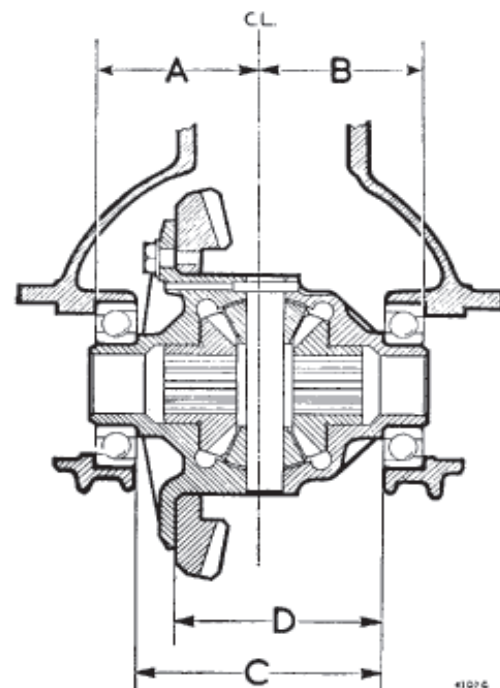

Fig. H.8
- (1) Before fitting the crown wheel and differential assembly to the gear carrier it is necessary to calculate the shim thickness required behind each bearing to give the required pinch. To facilitate the calculation machining variations are indicated by stamped numbers on the carrier adjacent to the bearing bores. The dimensions to be considered are shown in Fig. H.8, (A) being the distance from the centre-line to the bearing register of the carrier on the left-hand side and (B) the distance from the centre-line to the bearing register of the carrier on the right-hand side. The (C) dimension is from the bearing register on one side of the cage to the register on the other side, while the (D) dimension is from the rear face of the crown wheel to the bearing register on the opposite side. Any variation from nominal on the (A) dimension will be found